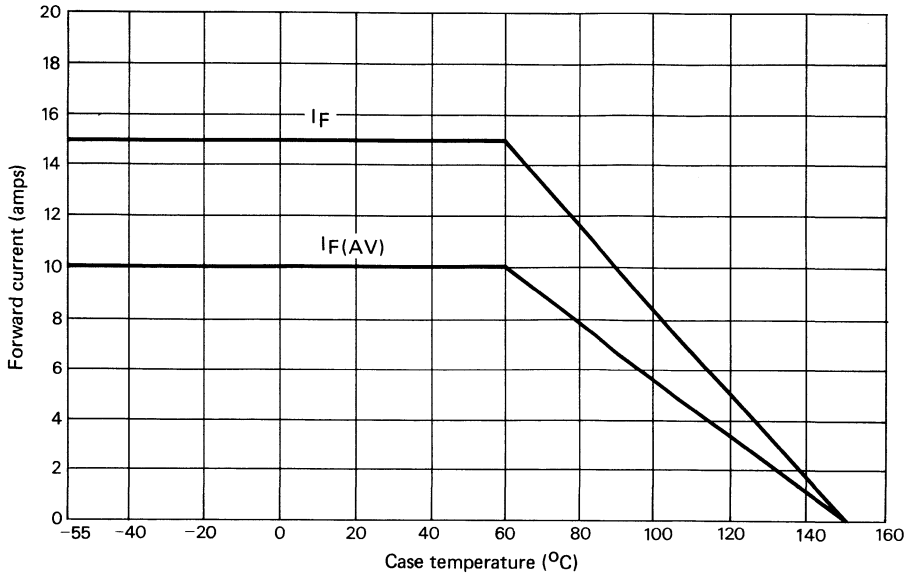

FIG. 1. Forward current derating curves.
- (1) Forward current derating curves are given in Fig. 1.